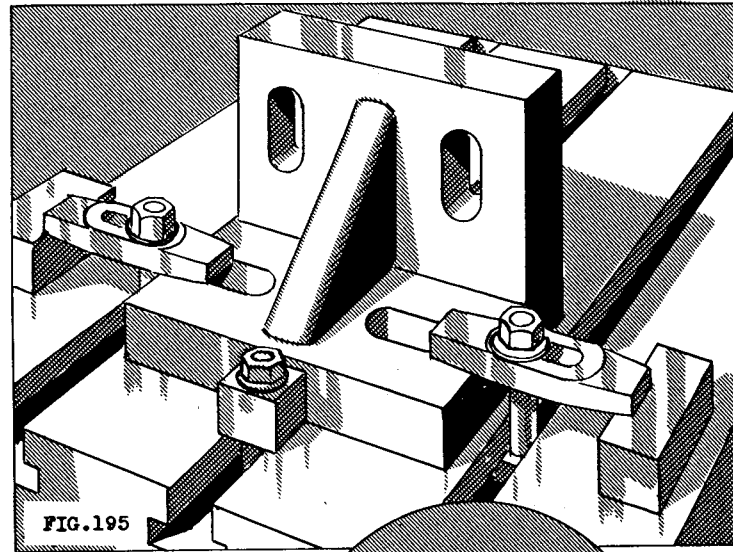

FIG.195
7. Bolt a stop to the table close against the forward edge of the angle plate. This will prevent any movement due to the thrust of the tool (Fig.195).